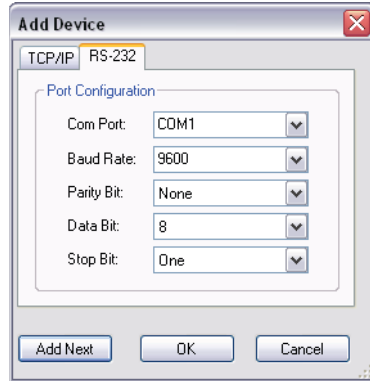

Figure 21. Add Device Screen
2. If you have not previously updated firmware for the PowerCage FOX unit before, on the Add Device screen (see figure 21), select the **RS-232** tab.